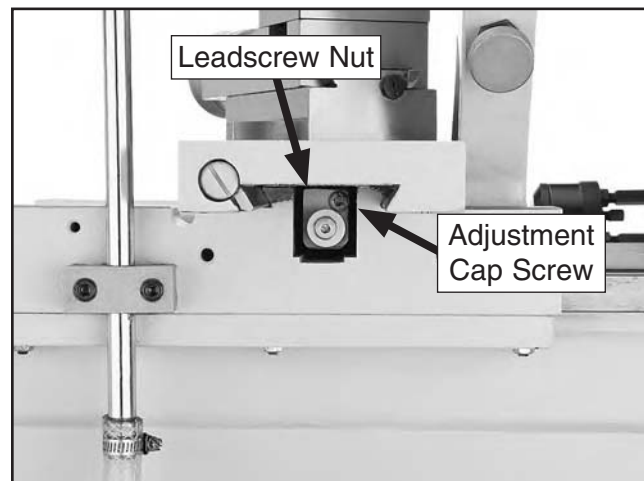

Figure 127. Cross slide leadscrew nut viewed from the rear of the slide.
4. Rotate the handwheel clockwise until it stops. This will force the leadscrew nut toward the rear of the slide where you can access it (see **Figure 127**).